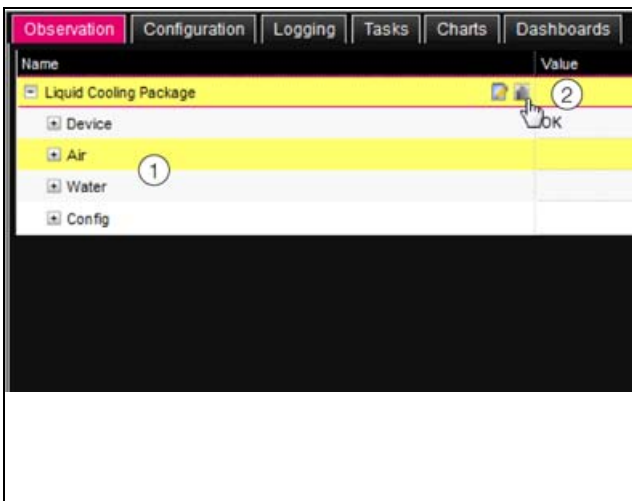

Fig. 83: Tree structure
If, after selecting the "Liquid Cooling Package" level, the subordinate entries "Device", "Air", "Water" etc. are displayed (fig. 83), you can switch to the graphical representation as follows:
- Press the coloured "Graphics" symbol after the "Liquid Cooling Package" entry in the form of a stylised diagram (fig. 83, item 2).
The display switches to the tree view (fig. 83) and the individual settings for the Liquid Cooling Package may be selected.